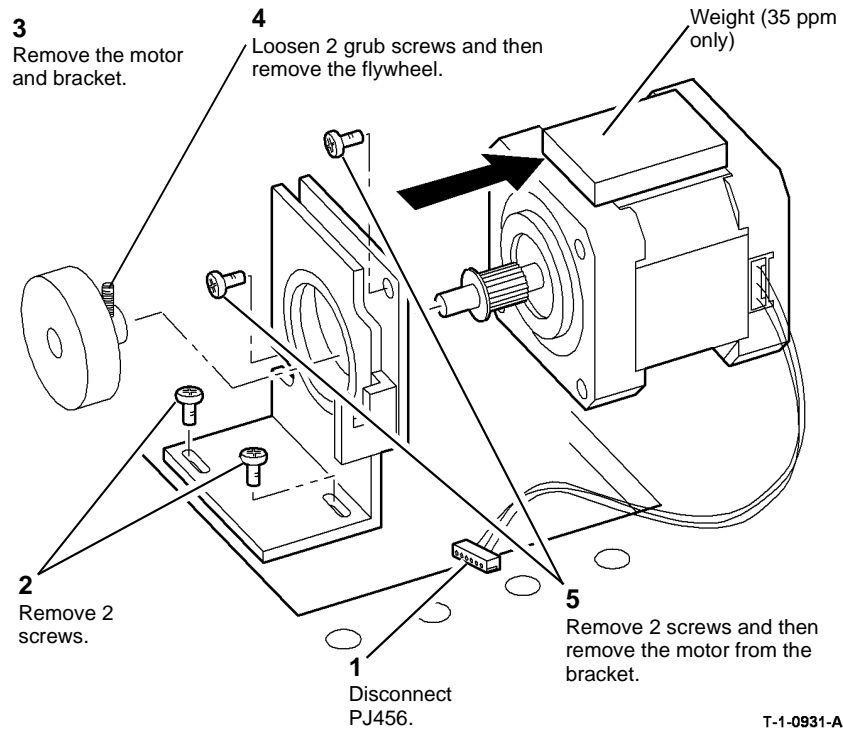

Figure 2 Motor removal
- Remove the scan motor and then remove the weight (35 ppm only), Figure 2.